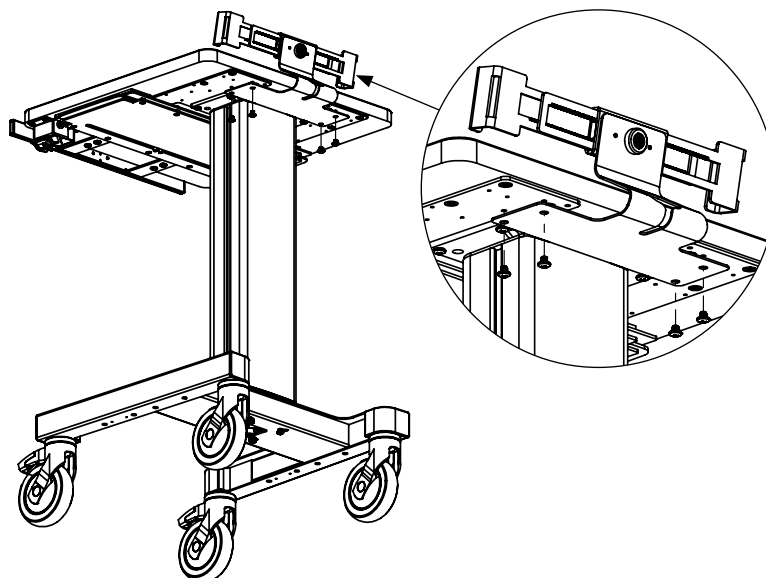

Figure 6
- a. **Laptop with Security Bracket Model:** Install the Laptop Security Bracket (**Box B**) to the worktop by placing the Laptop Security Bracket on the backside of the worktop and fasten four 1/4 - 20 x 1/4" long screws (**Figure 6**) from the bottom.